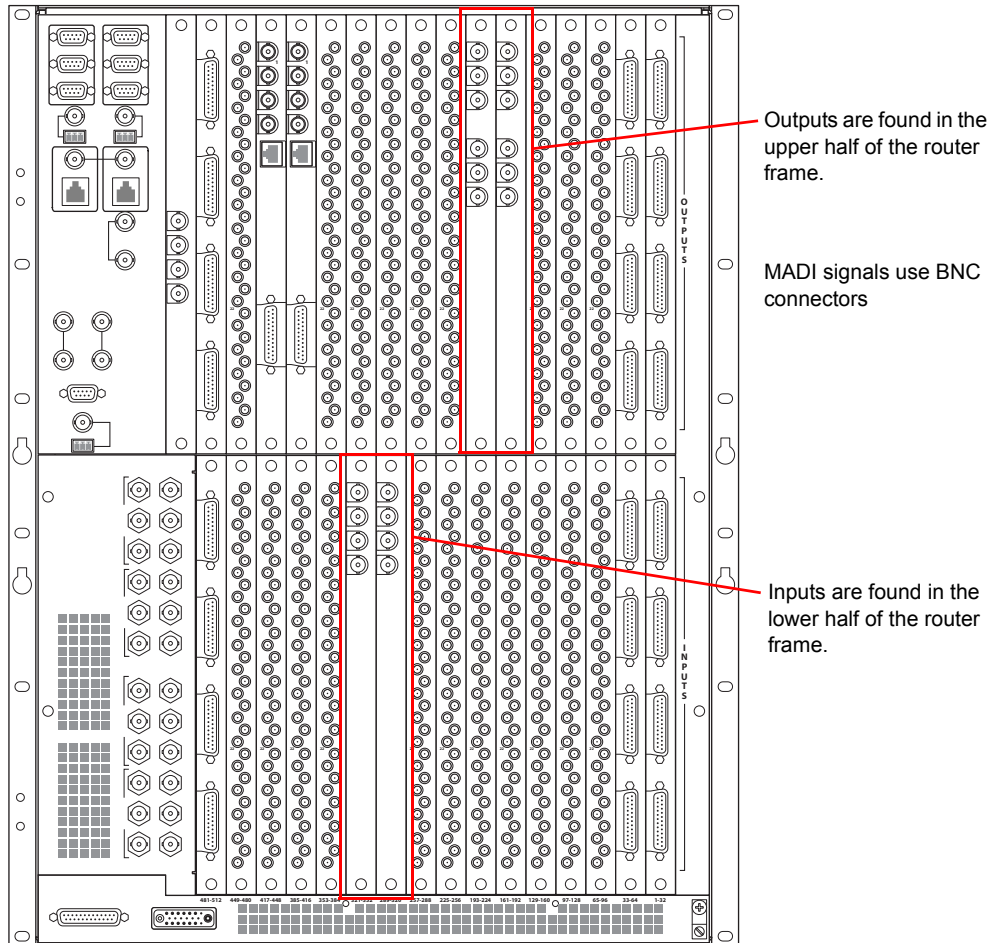

Figure 2-10. MADI Signal Connections (Rear View)
- 1 Locate the MADI *input* connections at the rear of the router, as shown in Figure 2-10. Inputs are located in the lower half of the router frame. The exact location of the backplanes and corresponding connectors may be different depending on your router configuration.
- 4 Locate the MADI *output* connections on the rear of the router, as shown in Figure 2-10.